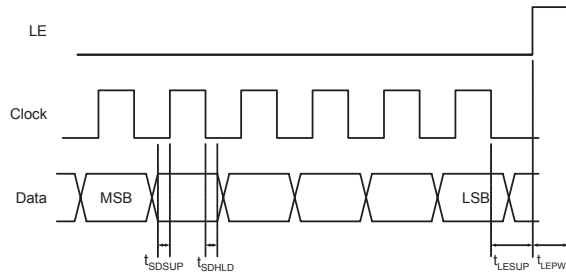

Figure 4. Serial Interface Timing Diagram
The serial interface is a 6-bit serial in, parallel-out shift register buffered by a transparent latch. It is controlled by three CMOS-compatible signals: Data, Clock, and Latch Enable (LE). The Data and Clock inputs allow data to be serially entered into the shift register, a process that is independent of the state of the LE input. The LE input controls the latch. When LE is HIGH, the latch is transparent and the contents of the serial shift register control the attenuator. When LE is brought LOW, data in the shift register is latched. The shift register should be loaded while LE is held LOW to prevent the attenuator value from changing as data is entered. The LE input should then be toggled HIGH and brought LOW again, latching the new data. The timing for this operation is defined by Figure 4 (Serial Interface Timing Diagram) and Table 3 (Serial Interface AC Characteristics).